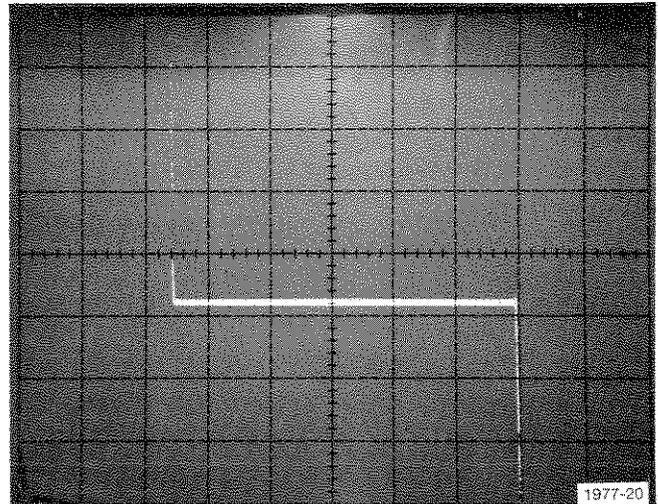

Fig. C-2. Display of input offset voltage.
a. Turn the SWEEP AMPLITUDE control slowly clockwise until the display indicates that the power supply levels have been reached; i.e., the left edge of the display moves straight up the screen and the right edge moves straight down (see Fig. C-2).